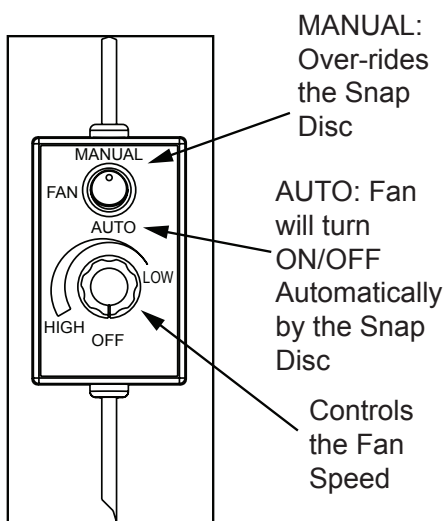

Figure 13.2
The blower can be plugged in and turned on right away. The blower is turned on and off by a snap disc. When your appliance has reached a certain temperature the blower will turn on and when your appliance has cooled down to a certain temperature it will turn off. Switch on blower control must be set to auto for this feature to work (**Figure 13.2**).
2. The blower is equipped with a speed control. Adjust the fan speed by turning the speed control clockwise to "Low" or counterclockwise to "High". **Figure 13.2**.